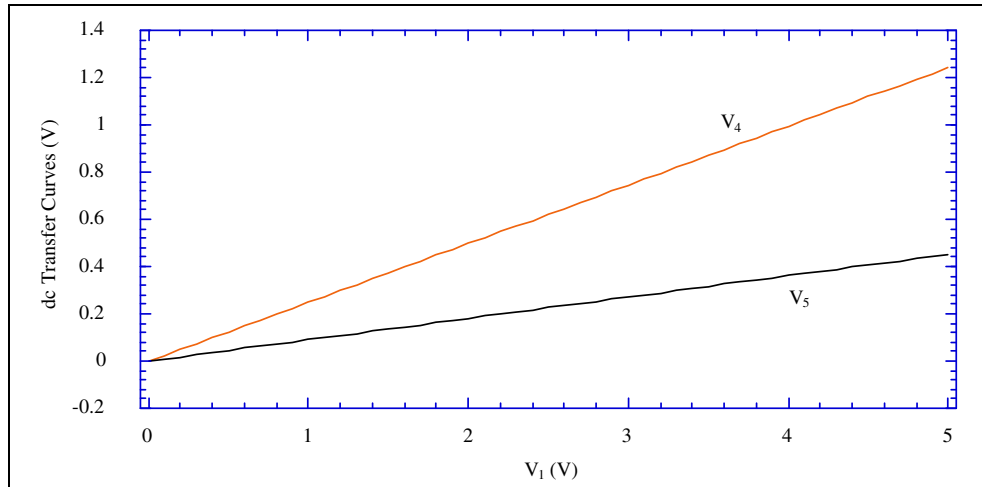

Figure 34 Simulation Results: DC Sweep
- Figure 34 on page 129 shows DC sweep